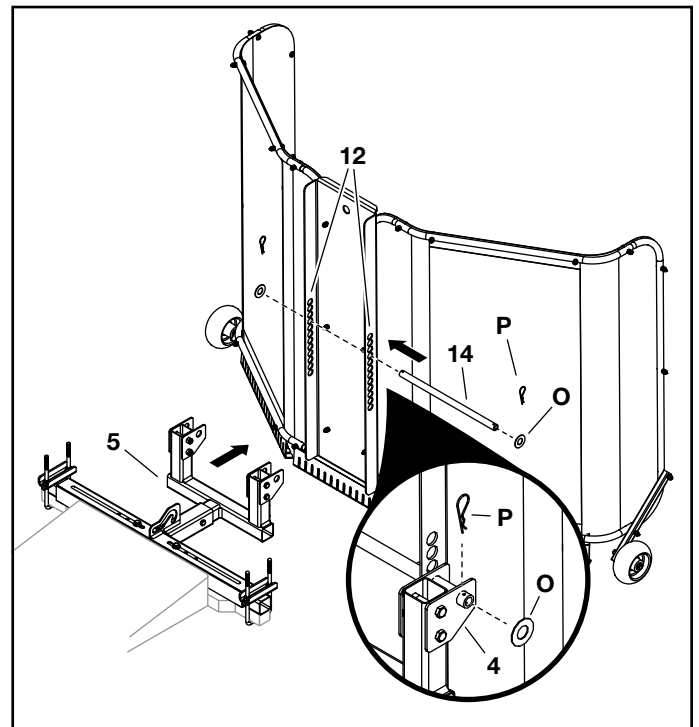

FIGURE 14
STEP 14: (SEE FIGURE 14)
- While holding the pusher wall assembly up to the blade mount assembly (5), insert the pivot shaft (14) through the two sets of pivot brackets (4) and the holes in the bulkhead (12).